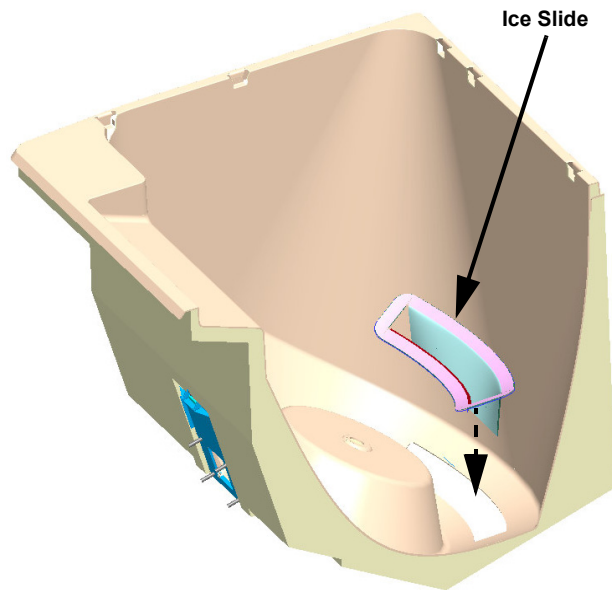

FIGURE 2 Ice Slide Assembly
1. Place ice slide into ice drop opening in bin (see Figure 2).